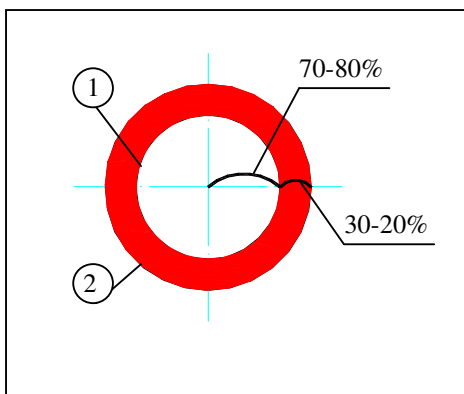

Figure 25
##### 4-4-2 Using the Aperture Diaphragm (Figure 25)
To adjust the aperture diaphragm, remove the eyepiece then looked into the viewing tube. Your field of view will appear as Figure 25. The proportion may be changed by turning the aperture adjustment lever: (① is the image of the aperture diaphragm & ② is the edge of the objective).